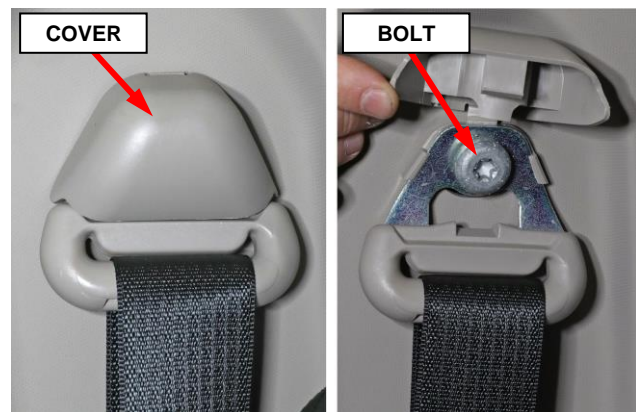

Figure 62 – Seat Belt Turning Loop
13. On the C-pillar, lift the seat belt turning loop cover then remove the turning loop bolt (Figure 62).
59. Using a **NEW** bolt and reusing the spacer washer, install the turning loop then tighten the bolt to 40 N·m (30 ft. lbs.) (Figure 62).
60. Install the seat belt turning loop cover (Figure 62).